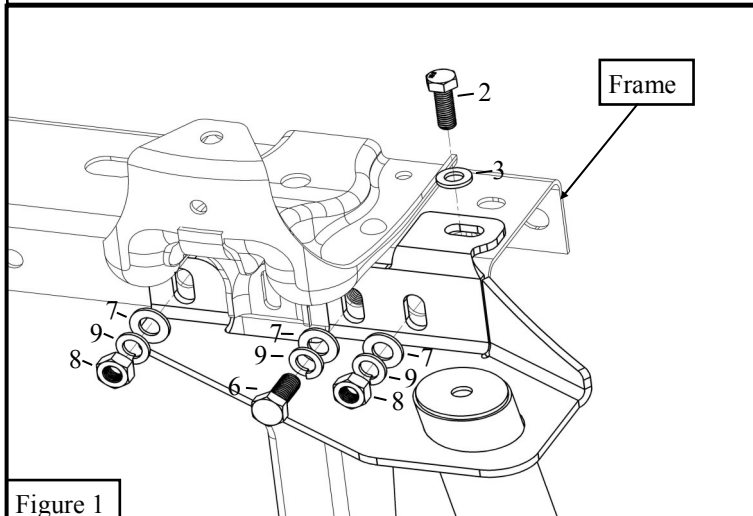

Figure 1
2. Locate mount hole locations (Figure 1)
3. With assistance, place hitch brackets on frame as shows in figure 1.
4. Use the M12 hardware on the bracket flange and into the side hole of the frame (Figures 1 & 2. Items 2, 3, 4, and 5).
5. Use M14 hardware install the hitch on the 3 holes in the bottom of the frame, (Center hole has a nut already assembled to the frame) (Figures 1 and 2. Items 6, 7, 8 and 9).